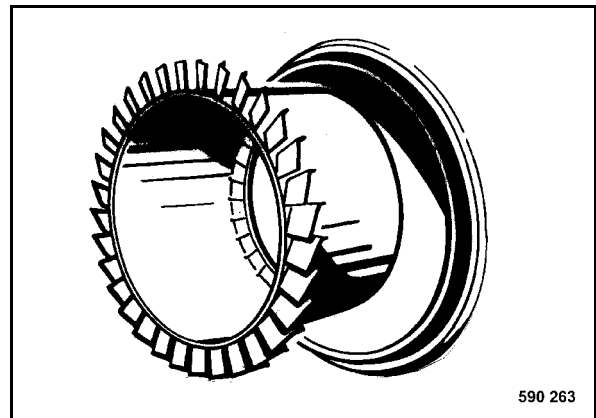

Fig. 27
- Remove the insert (Fig. 27) from the filter housing and clean it.